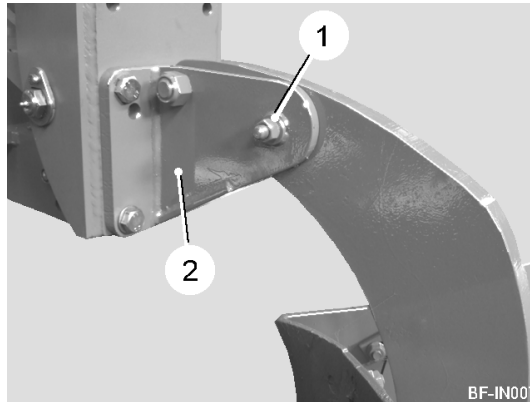

Fig 13
The ridgers bodies are protected by either a shearbolt device or an auto-reset device. Both devices prevent damage to the machine by allowing the ridger body to pivot backwards when hitting an obstruction. With the shearbolt device, as the name suggests, the grooved shearbolt (item 1, fig 13) breaks allowing the ridger to pivot up over the obstruction. Once the obstruction is clear the shearbolt must be replaced. With the auto-reset device the ridger body will pivot up and then automatically return to its working position once the obstruction has cleared.
Always replace a broken shearbolt with a genuine Standen replacement. When fitting the new shearbolt, for it to function correctly, the nyloc nut must be on the 'spacer side' of the leg mounting bracket (item 2, fig 13). Failure to observe the above precautions may cause damage to the machine.
WARNING: *The accumulator manifold unit (item 1, fig 13) contains gas at extremely high pressures and should not be tampered with. Never attempt to service or remove any manifold fittings including the pressure gauge. For service contact your Standen Dealer.*